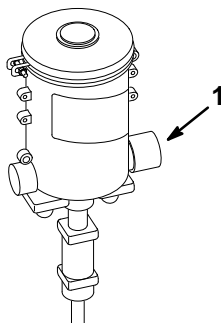

Figure 15
4. Close the bypass knob on the side of the injection unit (Fig. 15).